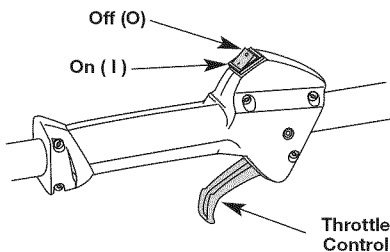

Fig. 7
**NOTE:** There is no need to turn the unit on. The On/Off Control is in the ON (I) position at all times (Fig. 7).
- Press and hold the On/Off Control in the OFF (O) position until the engine comes to a complete stop (Fig. 7).